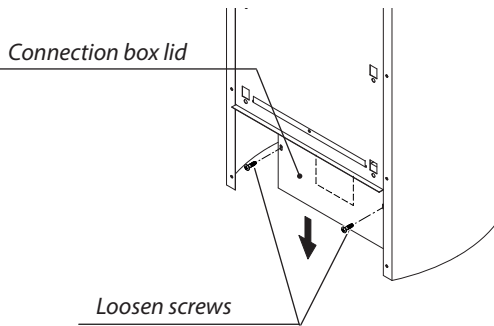

Fig. 6
- Open the cover of the terminal box (remove 2 screws) as shown in Fig. 6 and pull the cover downwards.